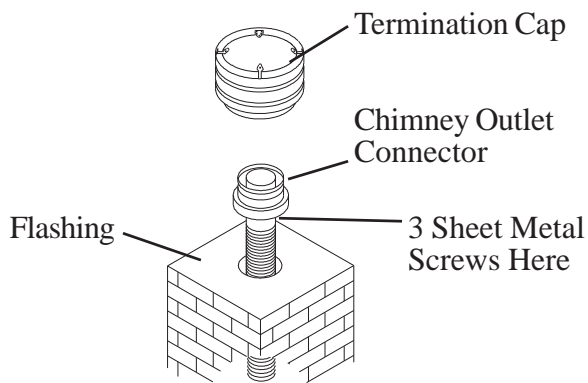

Fig 8
7. Secure the Chimney Outlet Connector to the Flashing. Use three sheet metal screws through the side of the adapter into the flange on the Flashing, as shown in Figure 8.